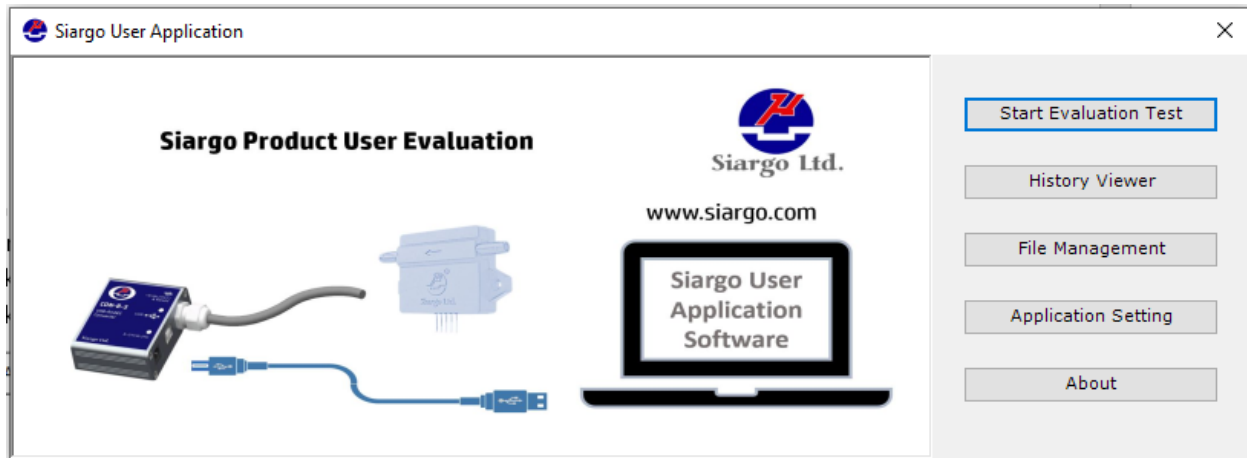

Figure 1
2. There are 2 main options to choose at startup screen. (See Figure 1)
6. User may view record data by click “History Viewer” button  on mainframe or click the button at startup screen. (See Figure 1)